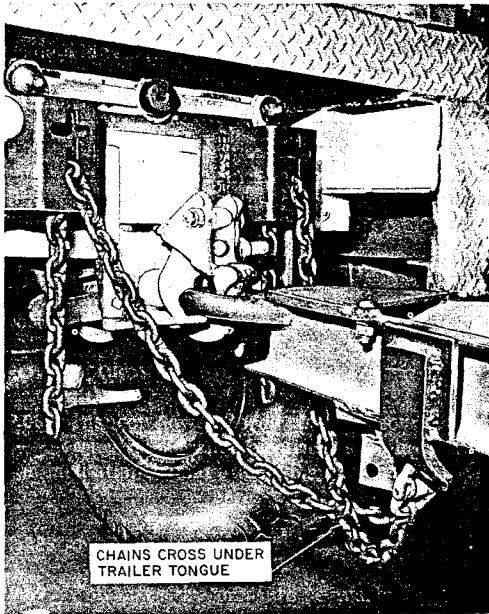

Fig. 9—Method of Coupling Safety Chains to Towing Vehicle
**4.04** To use the "cruciform" attachment device, attach the safety chains to the towing vehicle by taking the chain that is secured to the left side of the trailer tongue and coupling it to the attachment on the right of the towing hook. Take the chain secured to the right side of the trailer tongue and couple it to the attachment on the left side of the towing hook (See Fig. 9). The chains must be long enough to allow the trailer to be negotiated through turns but short enough to prevent the trailer tongue from contacting the ground if unintentional uncoupling occurs.